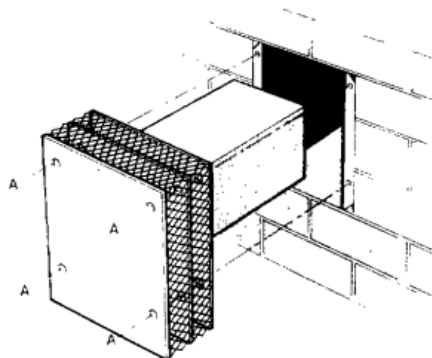

Fig. 10
2.6 Fit the Flue Terminal - See Fig. 10.
2. Fit the terminal into the flue duct and secure in position by tightening the four screws 'A' in Fig. 10.